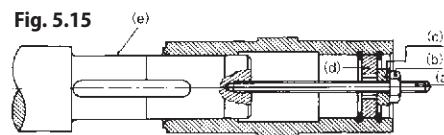

Fig. 5.15
- Smear the surface of the shaft (e) with molybdenum disulfide compound. See Fig. 5.15.